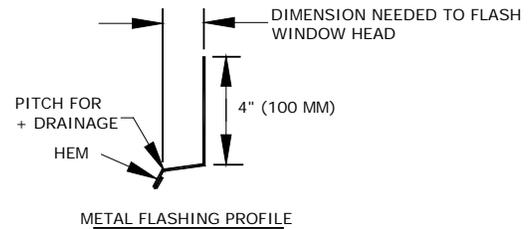
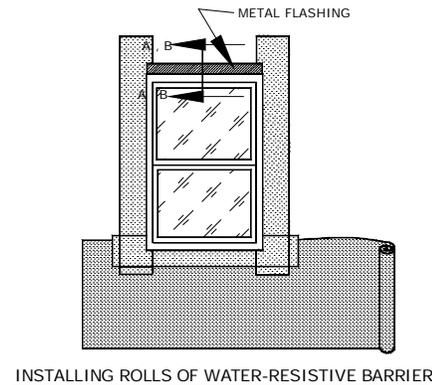
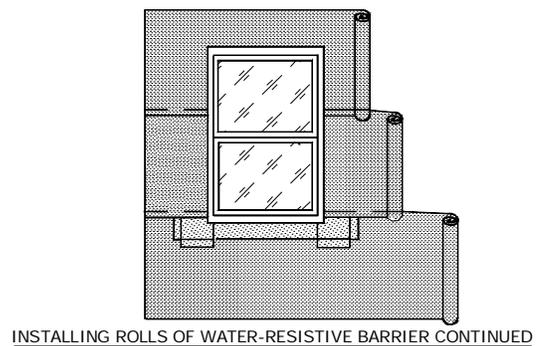

Fig 11.8
Fig 11.9
Fig 11.10
Install corrosion resistant metal head flashing. Length of flashing should be 1 in. (25mm) longer than the width of window or door frame. Rear vertical leg of flashing should be a minimum of 4 in. (101mm) high (Fig. 11.8 and Fig. 11.9).
■ Make sure the water resistive barrier is installed under the rough opening sill flashing as per Fig. 11.9. Lap barrier over jamb flashings and over the entire vertical back flange of the head flashing. (Fig. 11.10)